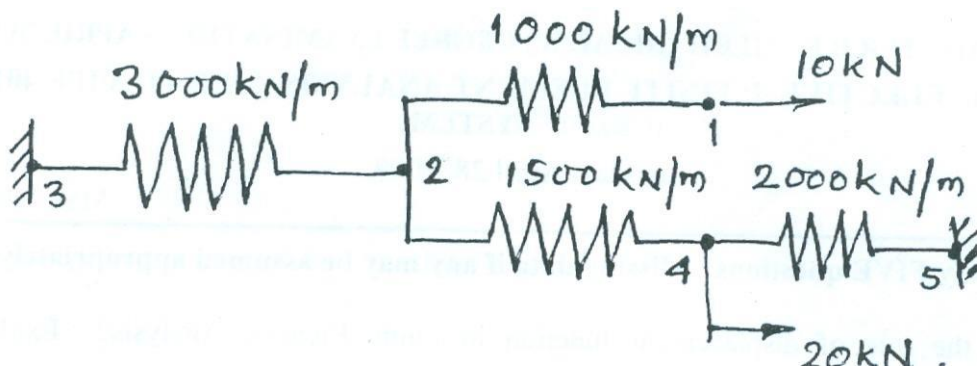

Fig. Q. 1b
1. a) What are higher order elements? With examples highlight the advantages of these elements over first order elements. (04)
- b) For the spring assemblage shown in **Fig. Q.1b**, evaluate the unknown displacements using **potential energy method**. (06)